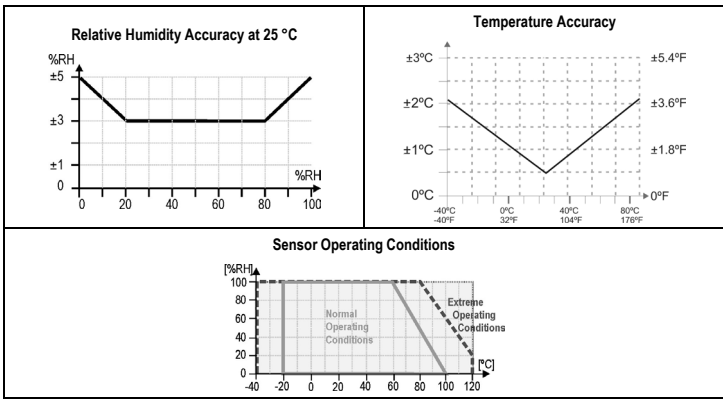

Fig. 1 - RH and Temperature accuracies
- Accuracy:** Refer to Fig. 1;